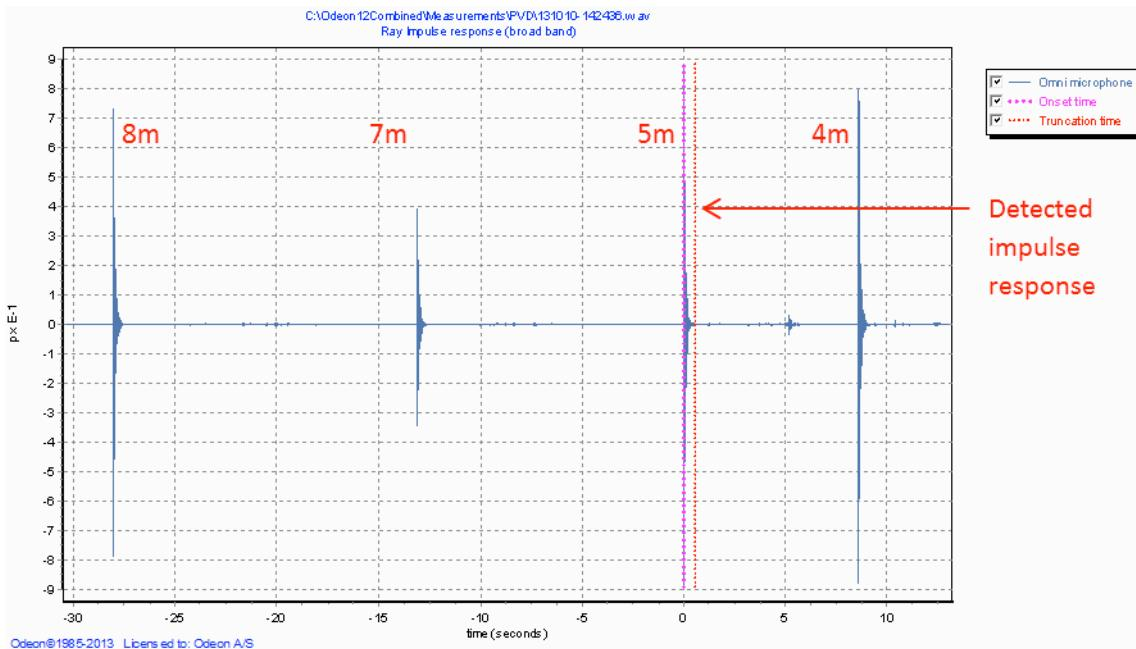

**Figure 3: Lunch Room at Scion DTU Lyngby, Denmark and our snapshot-recording equipment.**
A number of snap-shot measurements were carried out in the lunch area at Scion DTU in Lyngby, Denmark (figure 3). The lunch area is part of a large coupled space and is separated from the rest of the space by a wooden screen. The lunch area has the approximate dimensions: 21 meters by 7 meters and the height is around 4 meters.
We popped four balloons as the excitation stimuli. The distance between the source (balloon) and the microphone varied from about 8 meters to 3 meters. All four explosions were recorded at the same .WAV file. The measured impulse response as displayed in ODEON is shown in figures 4 and 5. Figure 4 shows the broadband pressure impulse response, while figure 3 shows the same impulse response squared (energy impulse response). Since the sound power emitted by different balloons is not stable and reproducible, the strength of the impulse response cannot be fully controlled[3]. This is why there is not a monotonic behaviour for the strength of the impulse response while moving closer to the source. ODEON automatically detects the onset time (vertical dashed-pink line) of the response and automatically truncates the response at the noise floor (vertical dashed-red line). The truncation is performed for each band individually (figures 4 and 5).
**Figure 4:** A recording containing 4 impulse responses using balloon explosions in the room of Fig. 3. The broadband signal is shown. The distances between microphone and balloon were 8, 7, 5 and 4 meters, respectively. The impulse responses were recorded in a single .WAV file which has duration of approximately 40 seconds. The file was further analysed in ODEON.